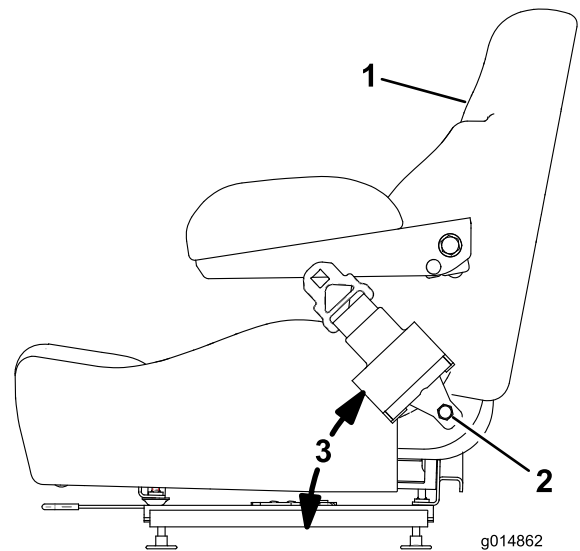

Figure 8
1. Check the angle of the seat belt compared to the bottom of the seat. The angle needs to be 47 degrees. See (Figure 8).